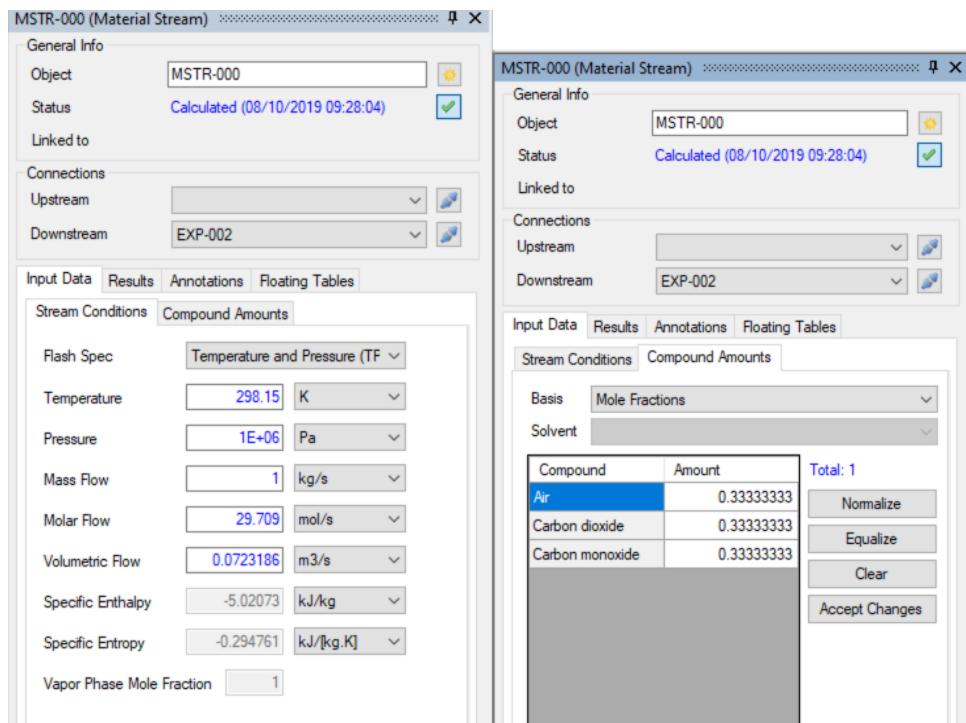

Figure 24: Viewing object properties in the editor window.
**Entering process data** The objects' process data (temperature, pressure, flow, composition and/or other parameters) can be entered in the property editor window (Figure 24). Properties that cannot be edited (read-only) are grayed-out.